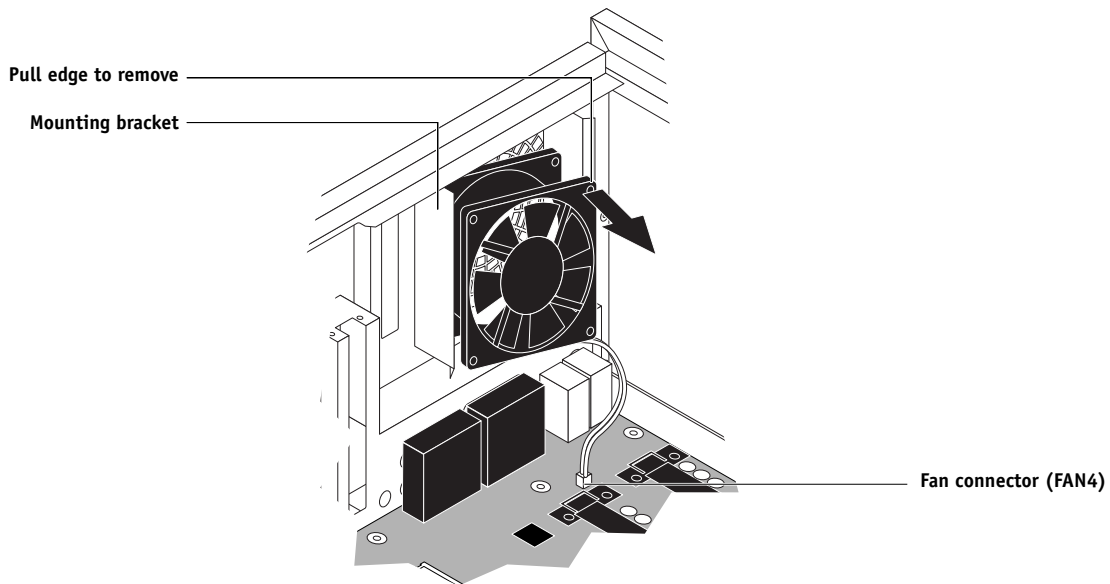

FIGURE 4-24 Removing the fan
1. **Angle one edge of the fan into the mounting bracket on the back panel of the E-810 and snap the fan into the clips on the bracket (see Figure 4-24 on page 4-47).**
2. **Plug the 3-pin fan connector into the motherboard connector labeled FAN4 (see Figure 4-24 on page 4-47).**